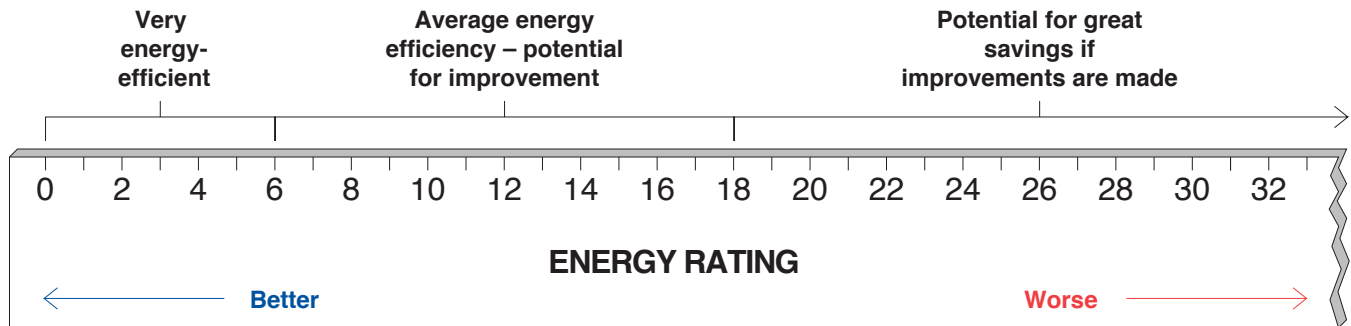

Figure 1-1 - Home Energy Rating Yardstick
Step 7 - Finally divide the figure in Box C by your climate factor (Box D), multiply by 1,000,000, and write the answer in Box E. This is your "Home Energy Rating". That's it. To assess your home's energy efficiency and potential for improvement, find where your Home Energy Rating falls on the Yardstick in Figure 1-1 on page 1.